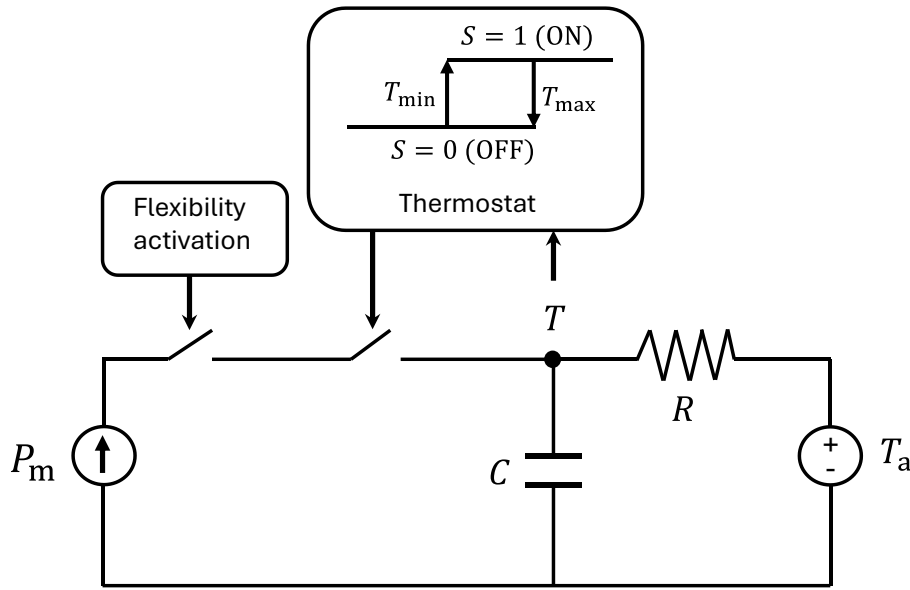

Figure 1: Equivalent network model of the thermal dynamics of an electric water heater as a flexibility resource, based on [1].
Here, $T(t)$ is the time dependent temperature inside the EWH and P_m , T_a is the ambient temperature outside the EWH that is assumed to be constant. For a given value of the thermostat status $S(t)$, the thermal dynamics of the model in Figure 1 is governed by Equations (1):